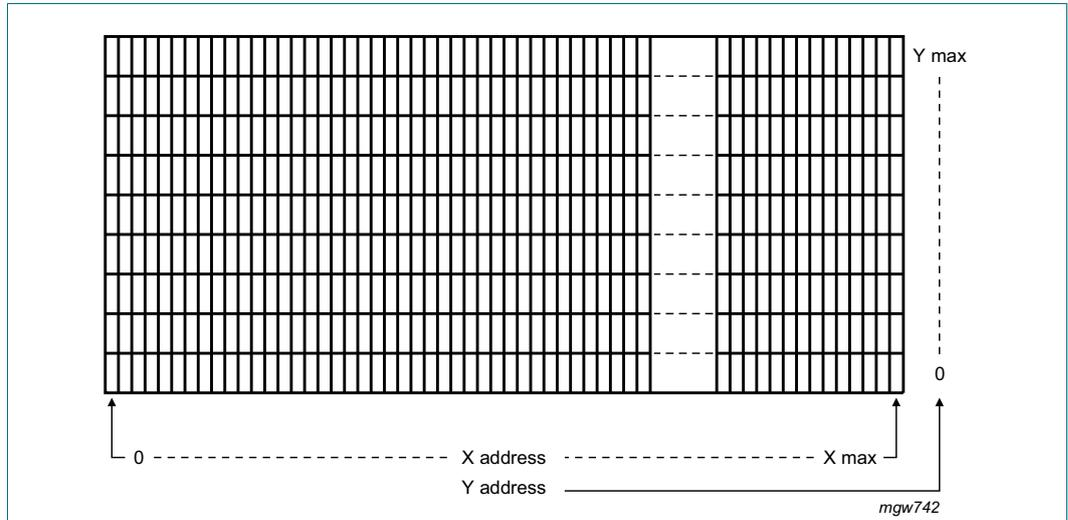
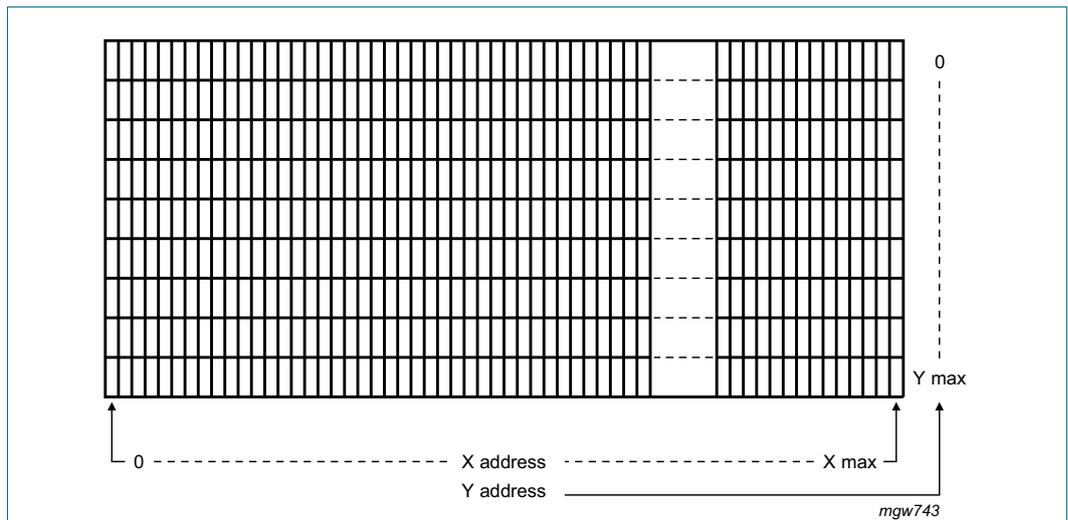

Fig 13. RAM format addressing; MY = 1 (both command sets)
Fig 14. RAM format addressing; MY = 0 (both command sets)
**Mirror Y (MY):** The MY bit (see Table 12, Table 13 and Section 12.5.2) allows vertical mirroring: when MY = 1, the Y address space is mirrored; the address Y = 0 is then located at the bottom of the display, see Figure 13. When MY = 0, the mirroring is disabled and the address Y = 0 is located at top of the display, see Figure 14.